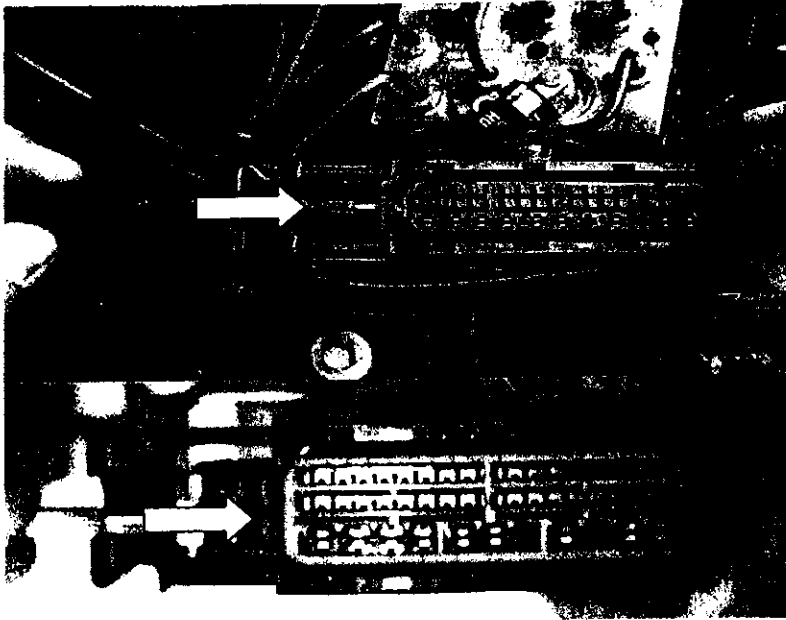

Figure 10: Closing the secondary lock
12. Close the gray contact strip secondary lock of the SBC connector housing. To do this, slide the gray secondary lock in the direction indicated by the arrow using a small screwdriver (Figure 10).